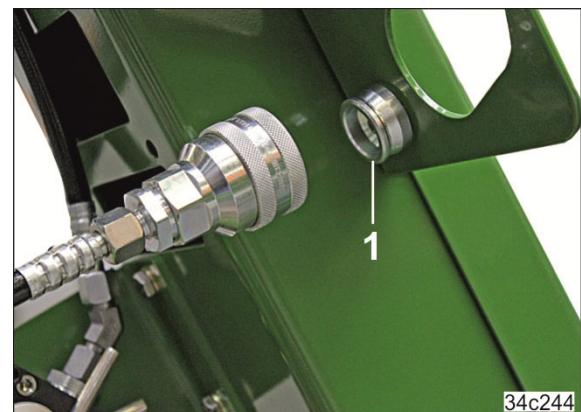

Fig. 131
5. Push the hydraulic socket onto the protective cap (Fig. 131/1). The protective cap is secured to the hose cabinet and protects the socket against soiling in the parking position.